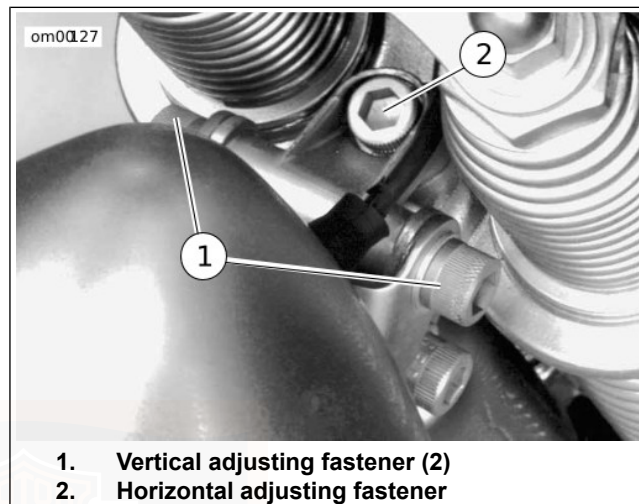

Figure 67. Headlamp Adjustment: FXSTS
1. See Figure 67. Set vertical adjustment.
- a. Loosen the two vertical adjustment fasteners (1).